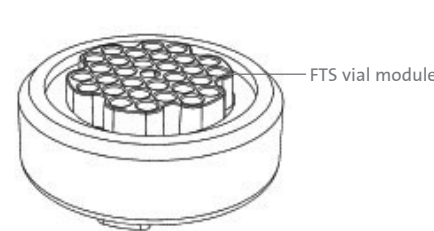

Figure 8
- ▶ Insert the plastic FTS Vial Module into the base and make sure the skirt of the module is evenly seated on the foam shelf. Place 30 cryogenic vials containing 1.0 mL of freezing medium into the module. Alternatively, the FTS Vial Module may be filled with vials remotely and then placed into the CoolCell FTS30 base. **IMPORTANT: Do not place a vial in the center hole of the vial module. The center hole is part of the ventilation pathway and must not be blocked (Figures 8 and 9).**